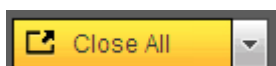

Figure 5-9
- Section 2: There are channel number and one button: Start all. Start all button is to enable/disable all-channel real-time monitor. Click it the button becomes yellow. See Figure 5-9.